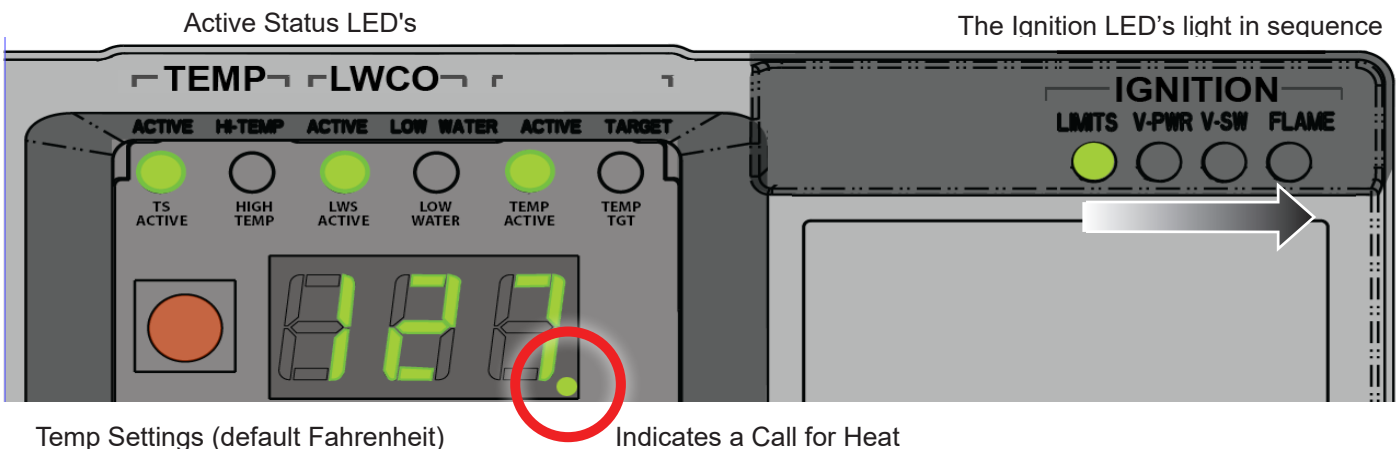

Figure 1. The indicator lights on the Digital Dashboard
The digital dashboard is located at the front of the boiler and has several indicator LED's that display the current status of the boiler while it is in operation. See Figure 1.
The primary indicators on the digital dashboard are illustrated in Figure 1. Normal Operation indicators are Green.
4. The third decimal, lower right of the JX Control display will light indicating a call for heat. See Figure 1.